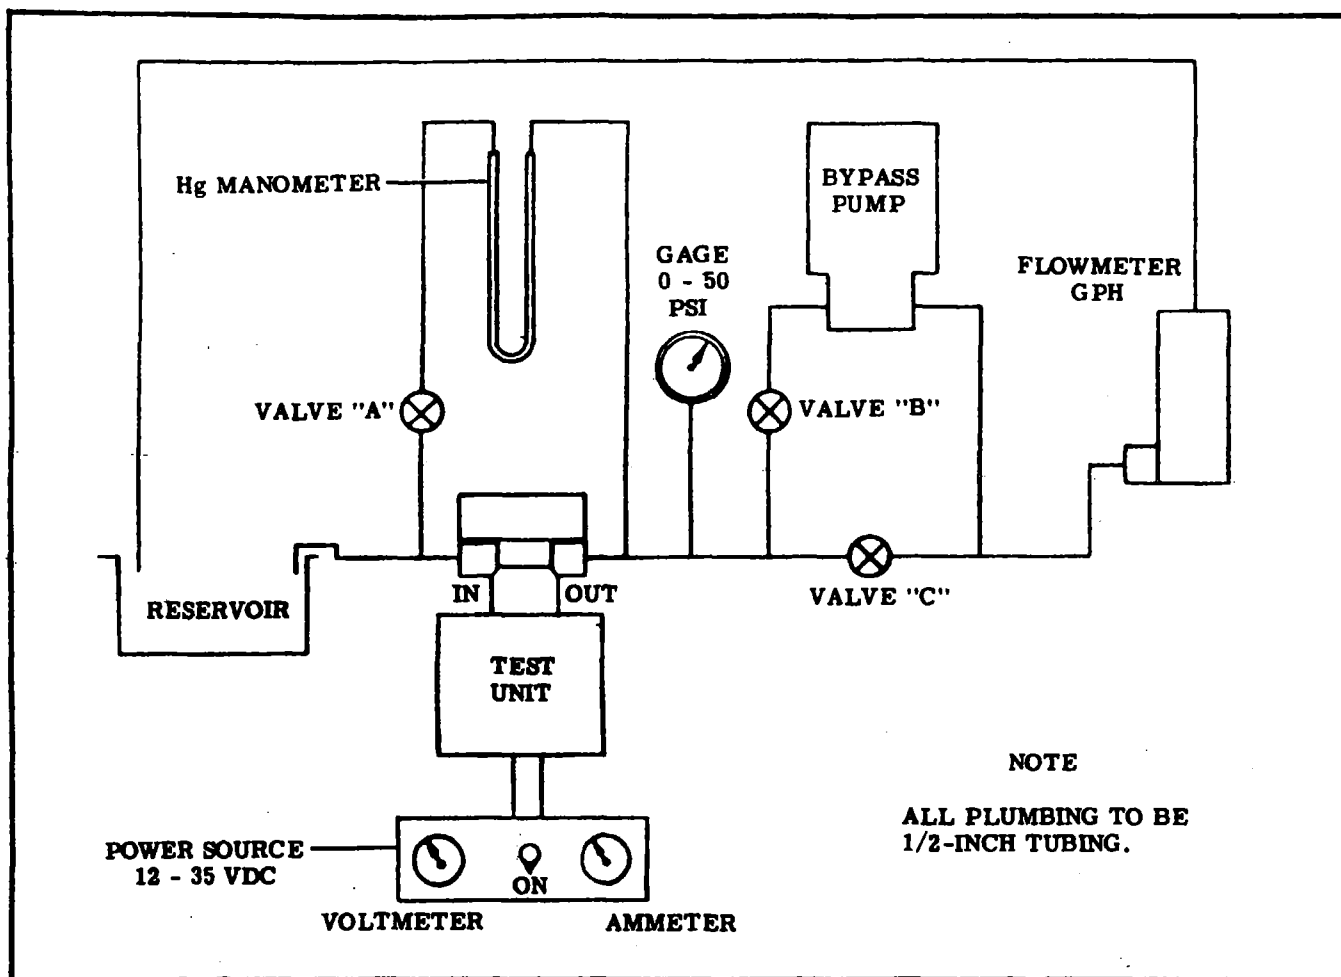

Figure 13-18. Test Stand Schematic
- a. Install pump assembly in appropriate test stand (see figure 13-18).
- b. While maintaining a no flow condition, adjust plug (33) until a relief pressure of 23 to 24 psi is obtained.
- c. After correct pressure is obtained, seal plug (33) at threads with Epocast Epoxy No. 212-10 mixed with hardener No. 9816. (Reference: Furane Plastics.)
- d. Allow Epoxy to dry and install nameplate (34).